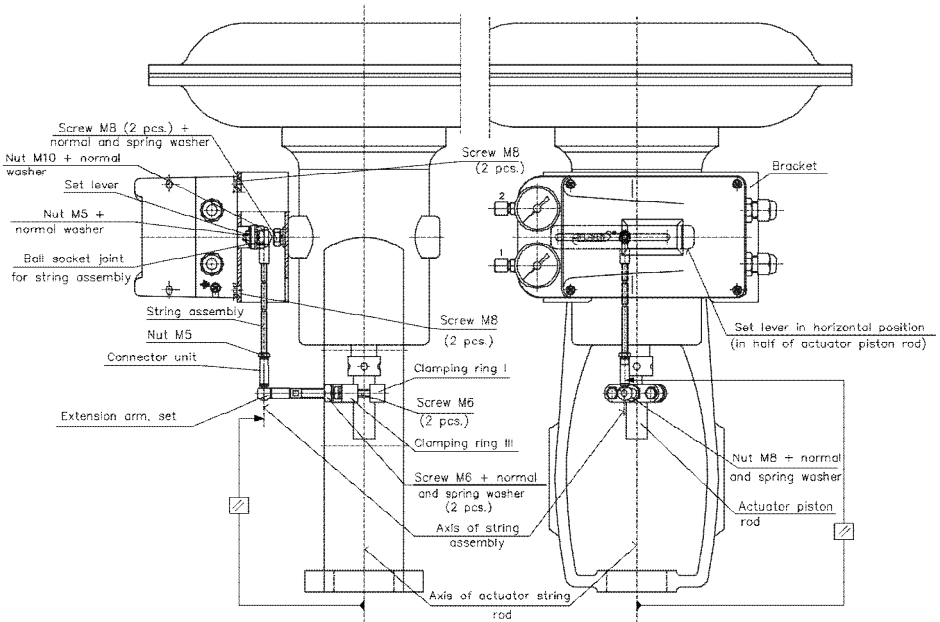

Fig. 5. Positioner APIS-1X0-... with mounting kit APIS-A001-SS(SO) (positioner installed on yoke actuator type 37 or 38 manufactured by Polna S.A.).
- b) Install the ball-and-socket joint on setting lever of the positioner in place corresponding to stroke of the actuator and tighten M5 nut (see Fig. 5 and 6)
- i) Screw extension arm set into clamping ring III; then adjust its length and move whole positioner in relation to the positioner using longitudinal cut-out for fixing screws in a mounting bracket to ensure that lever set (installed later) is parallel to actuator piston rod. If the extension arm is too long it should be cut to the required length (see Fig. 5 and 6).